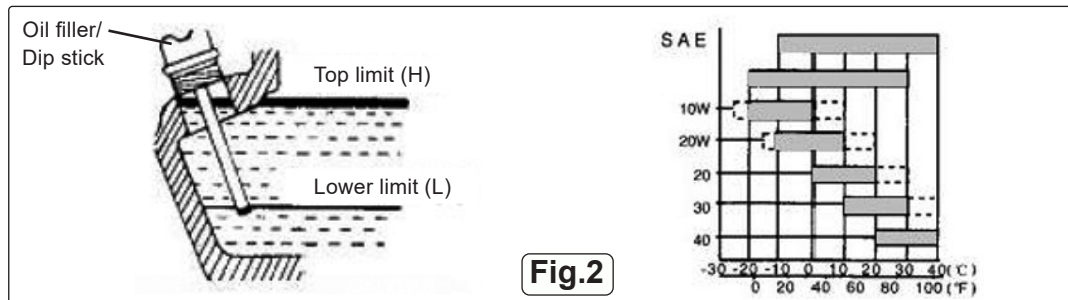

Fig.2
- ❑ **WARNING!** Generator is shipped without oil. Add oil before starting. See fig.2 below